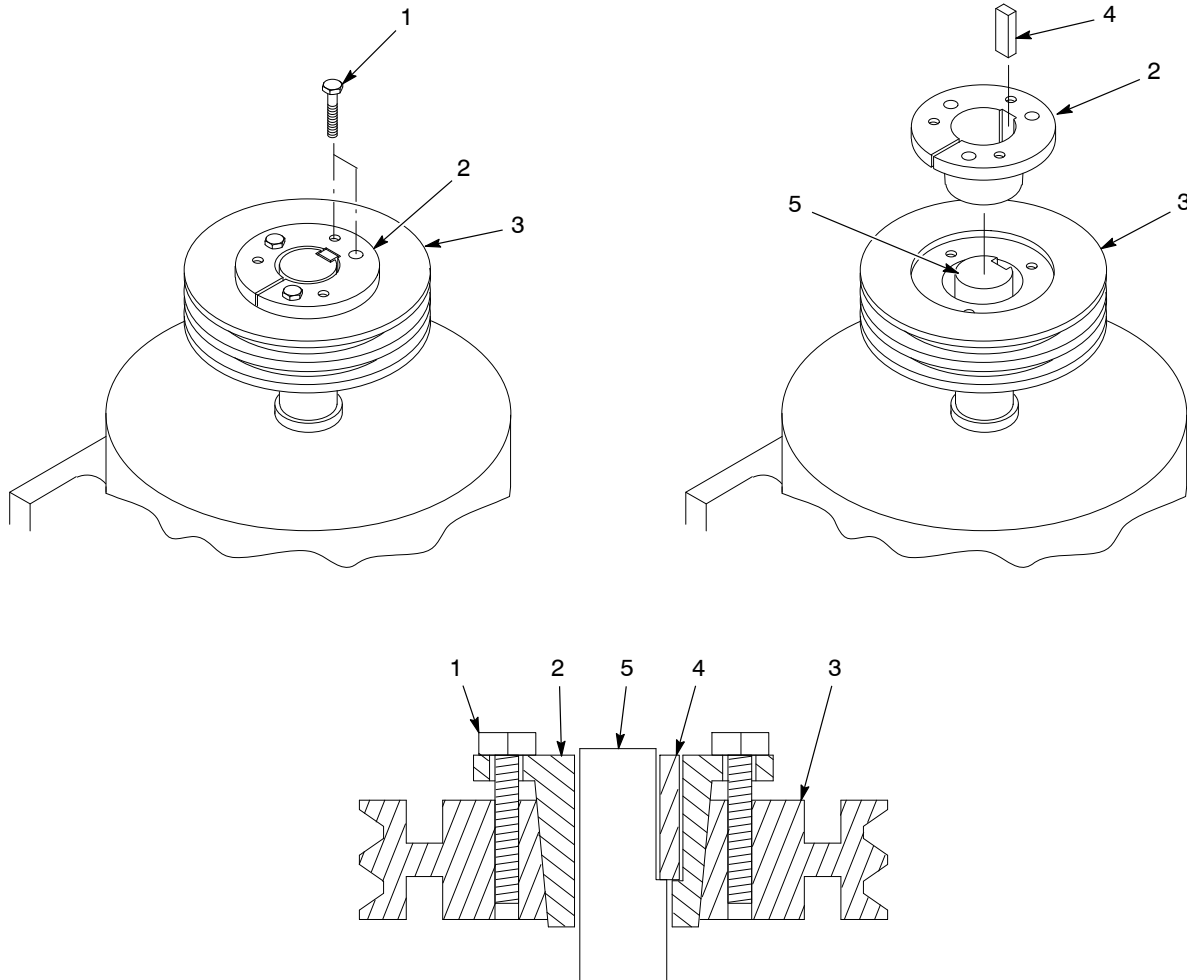

Figure 6-11 Motor Sheave Replacement
3. See Figure 6-11. Unscrew the three cap screws (1) and remove them from the unthreaded holes in the bushing (2). Thread the screws through the threaded holes in the bushing until they bottom out on the sheave (3) hub.
5. Pull the sheave and bushing off the motor shaft. Remove the screws from the bushing. Inspect the sheave, bushing, and key (4), and replace them if they are damaged. Clean the parts that will be reused.